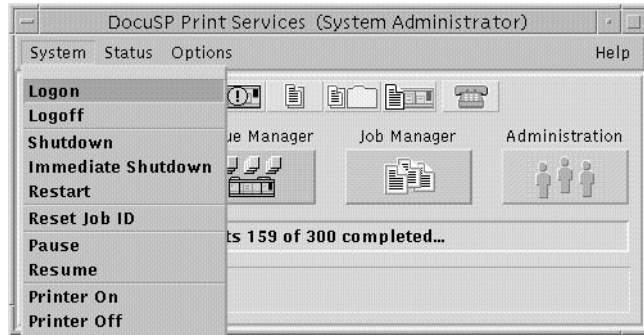

Figure 6-10 The System Option Menu
- b) Pull down the System menu and select **Logon**, as shown in Figure 6-10.